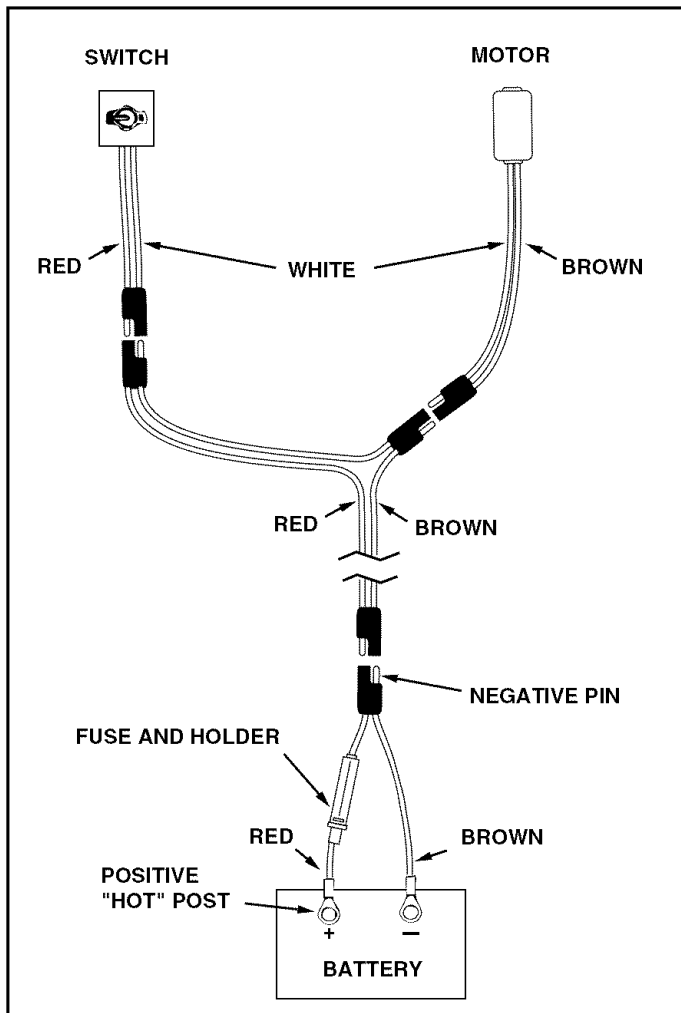

FIGURE 11
20. Connect the short (fused) wire harness to the vehicle battery by connecting the red wire to the positive post and the brown wire to the negative post on the battery. The wire harness may be left permanently attached to the battery. See figure 11 .
21. Connect the long wire harness to the spreader by connecting the red and white wires to the switch and the brown and white wires to the spreader motor. Refer to figure 11.